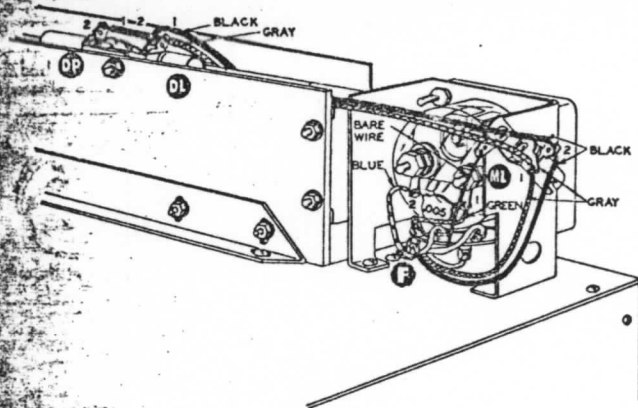

Figure 36
(✓) Connect the green wire from meter switch terminal MS1 to lug 1 on the meter (NS), and the blue wire from terminal MS4 to lug 2 on the meter (NS). Refer to Figure 36.